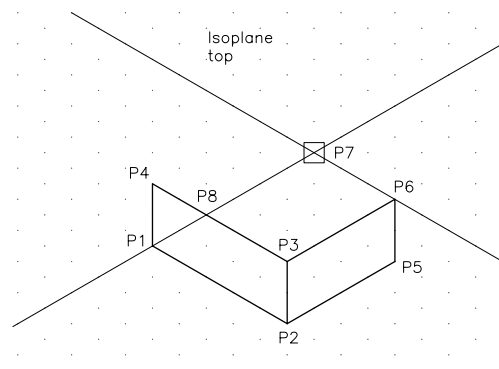

Figure 24-11 Drawing the top face
4. Change the isoplane to the isoplane top by pressing the F5 key. Invoke the **Line** tool and draw the lines, refer to Figure 24-11.